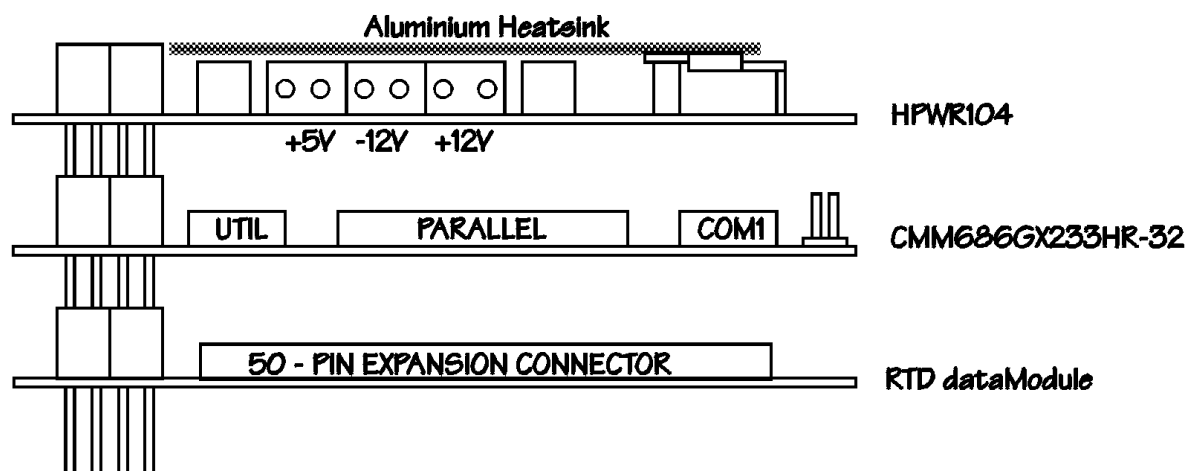

Fig. 2-1: HPWR104HR powering an RTD PC/104 cpuModule stack
- Fig. 2-1: HPWR104HR powering an RTD PC/104 cpuModule stack